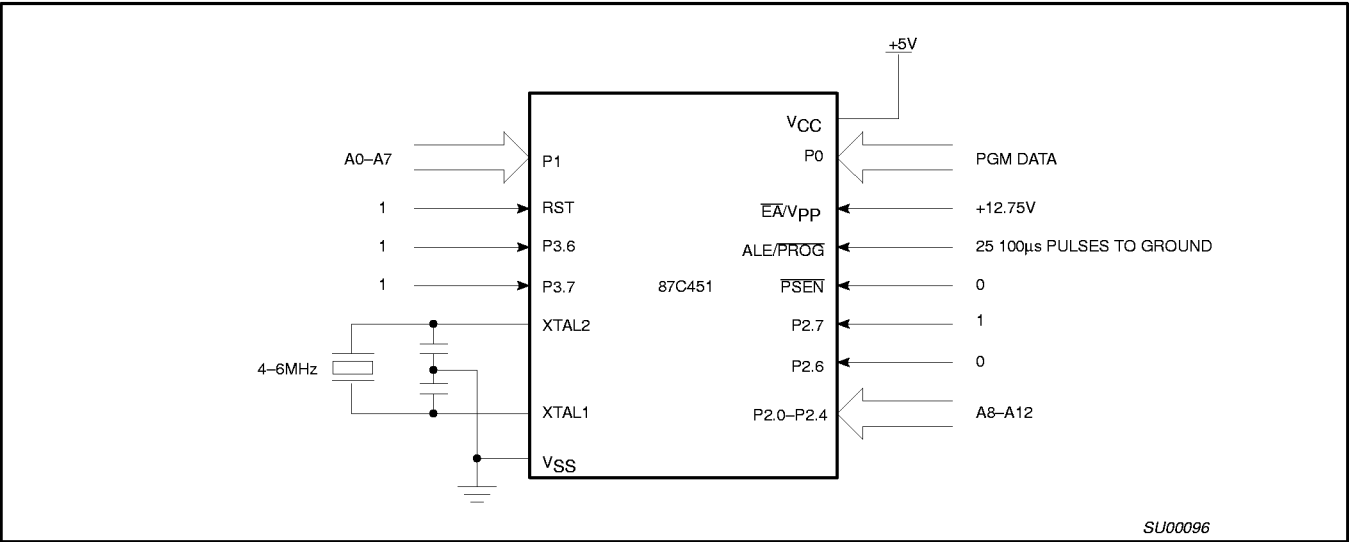
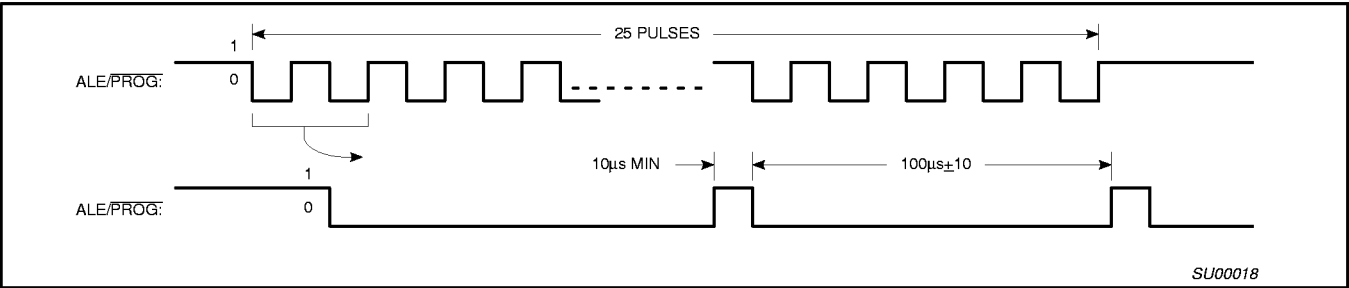
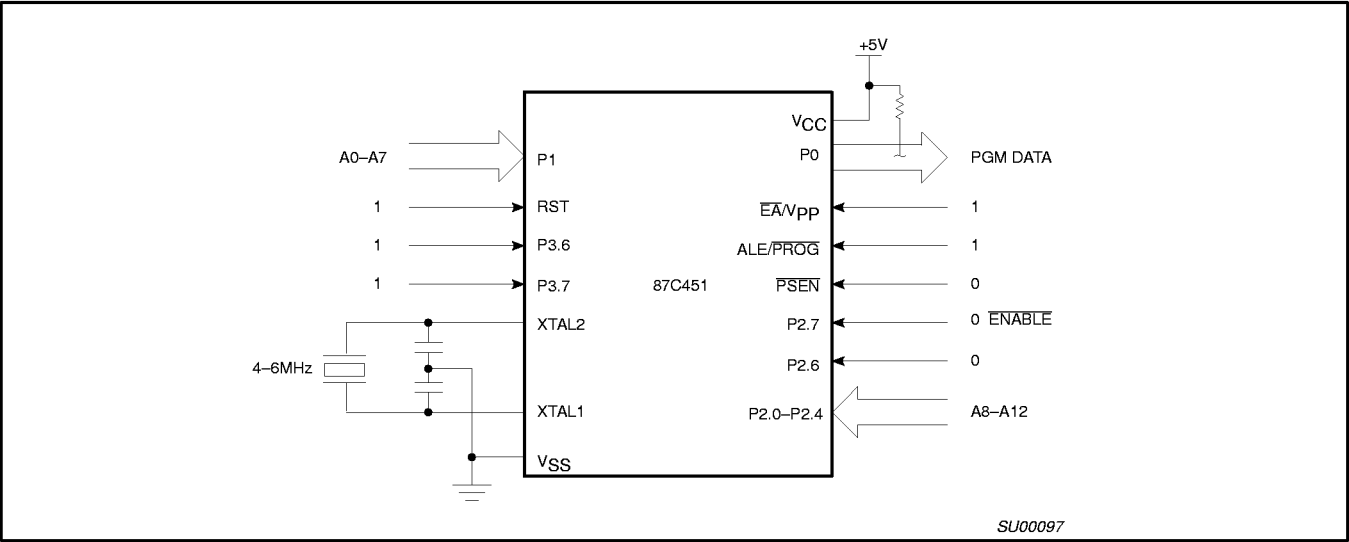

Figure 18. Programming Configuration
Figure 19. PROG Waveform
Figure 20. Program Verification
Table 4 shows the logic levels for reading the signature byte, and for programming the program memory, the encryption table, and the lock bits. The circuit configuration and waveforms for quick-pulse programming are shown in Figures 18 and 19. Figure 20 shows the circuit configuration for normal program memory verification.
The setup for microcontroller quick-pulse programming is shown in Figure 18. Note that the 87C451 is running with a 4 to 6MHz oscillator. The reason the oscillator needs to be running is that the device is executing internal address and program data transfers.
The address of the EPROM location to be programmed is applied to ports 1 and 2, as shown in Figure 18. The code byte to be programmed into that location is applied to port 0. RST, \overline{PSEN} and pins of ports 2 and 3 specified in Table 4 are held at the 'Program Code Data' levels indicated in Table 4. The ALE/PROG is pulsed low 25 times as shown in Figure 19.
If lock bit 2 has not been programmed, the on-chip program memory can be read out for program verification. The address of the program memory locations to be read is applied to ports 1 and 2 as shown in Figure 20. The other pins are held at the 'Verify Code Data' levels indicated in Table 4. The contents of the address location will be emitted on port 0. External pull-ups are required on port 0 for this operation.
- * FOR PROGRAMMING VERIFICATION SEE FIGURE 18.
FOR VERIFICATION CONDITIONS SEE FIGURE 20.